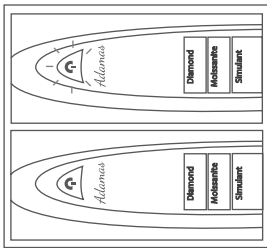

Fig. 1.10
3. Press the Power Button to switch on the tester. Once the READY Light stops blinking, the tester is ready to enter calibration mode as shown in **Fig. 1.10**. This process may take up to 15 seconds. If the READY Light continues to blink after 15 seconds, the probe tip may not be positioned properly. Kindly repeat the procedure from Steps 1 and 2.